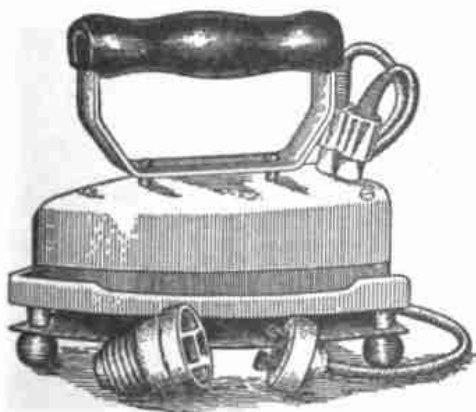

Fig. 69
1. *The Electric Sad Iron* (Fig. 69).— Removing three screws the iron comes apart, revealing a lot of No. 24 German silver wire wound upon a sheet of mica. This is put between other sheets of mica (Fig. 70) and tucked away within the body of the iron. German silver offers about twice the resistance of iron when it is cold, but, at the temperature of the sad iron when in use, there is not much difference between the resistance of the two metals. German silver wire, however, does not rust as iron wire would, and hence it is chosen.